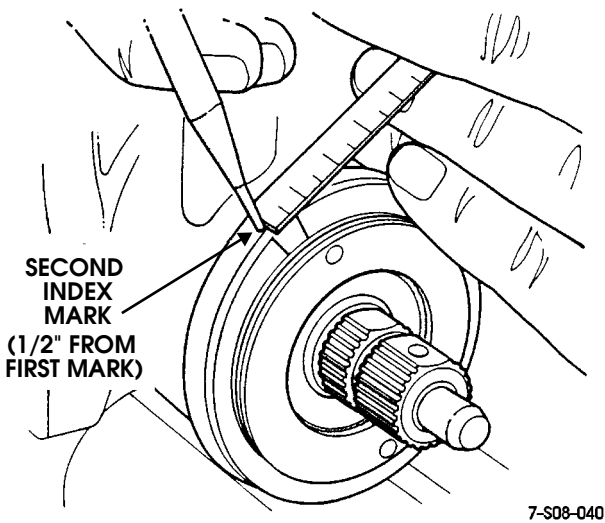

Figure 8-66: Placing Second Index Mark On Housing
6. Measure back counterclockwise 1/2 inch (13 mm) from first index mark and scribe a second index mark on gear housing (Figure 8-66).